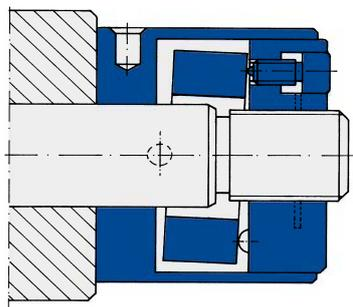

Fig. 1
1. Screw the clamping nut manually until it makes contact with the end face (Fig. 1), Tighten the fixing screws and lock the clamping nut to the thread.